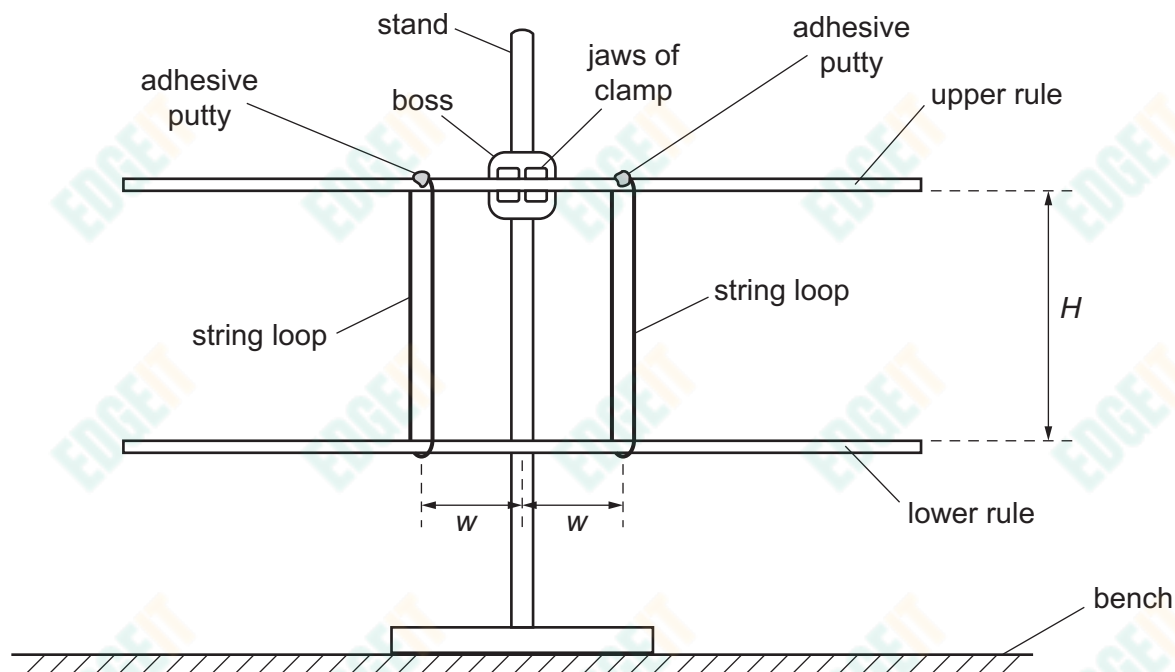

Fig. 1.1
- (a) • Set up the apparatus as shown in Fig. 1.1, with the scales on the metre rules facing upwards.
- (b) • For both rules, the distance between the 50 cm mark and each string loop is w , as shown in Fig. 1.1.